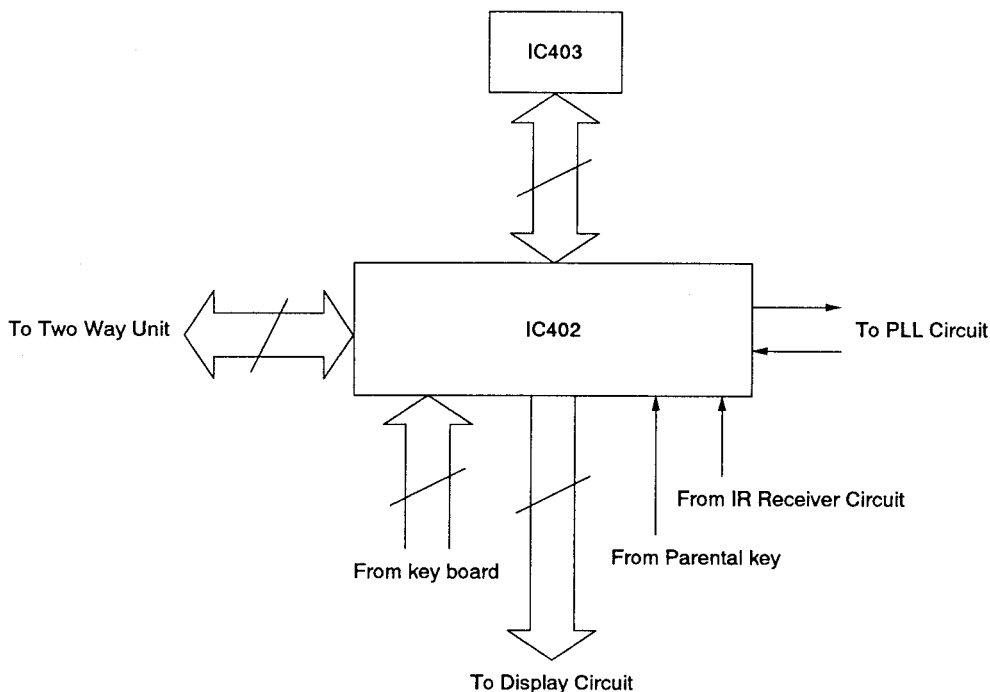

Fig. 28 Block Diagram of Logic Section
7. Logic Section (Fig. 28)
The logic section is comprised of the MPU IC402, EAROM IC403 and reset circuit. Refer to the block diagram Fig. 28 of this section. Main features are listed.